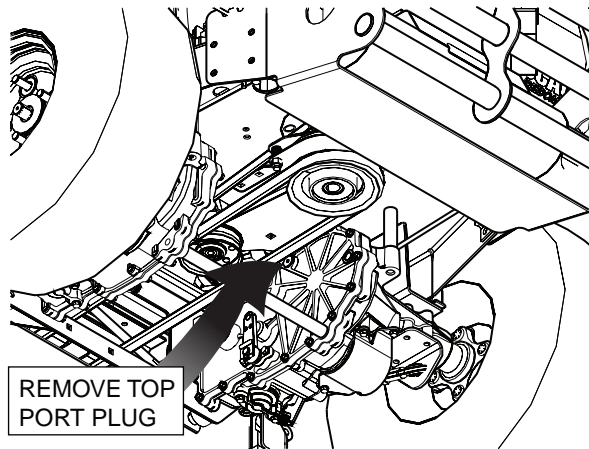

Figure 7-4. Top Port Plug Location
- Remove the top port plug from both axles before filling with oil. See Figure 7-4.